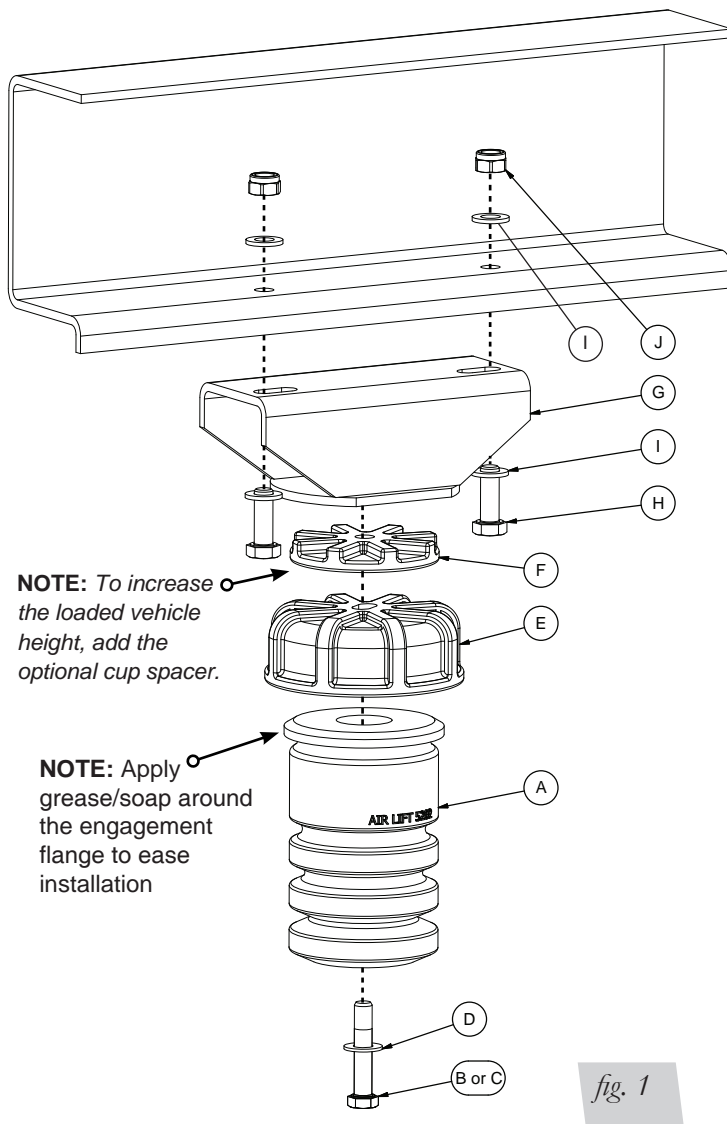
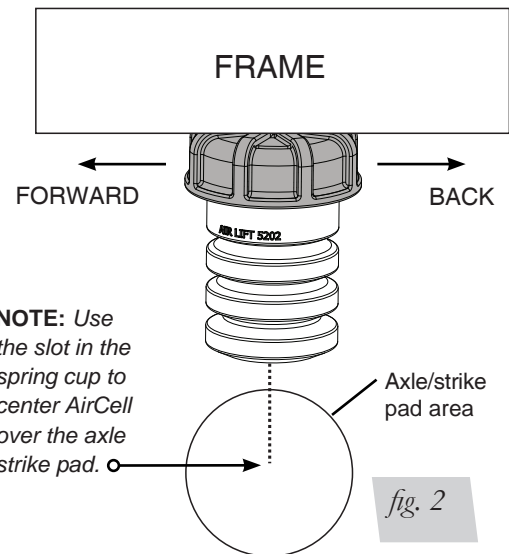

fig. 1
fig. 2
3. Assemble the spring cup (E) to the bracket (G) using the supplied 3/8" bolt (C) and 3/8" flat washer (D) (fig. 1). Torque the hardware to 31 ft/lbs.
4. Using the holes where the stock jounce bumper was removed, attach the bracket/cup assembly to the vehicle using the supplied M10 bolts (H), flat washers (I), and depending on the year, nyloc nuts (J). Torque the mounting bolts to 37 ft/lbs.
5. Insert the spring (A) into the spring cup (E) using a twisting motion while pushing with force. Make sure the spring snaps into position inside the cup.
6. Check the alignment of the spring over the axle strike pad (fig. 2). If needed, loosen the mounting bolts and move the bracket forward or back to properly align (fig. 1 and 2). Fine adjustment can be obtained with the slot in the spring cup. Repeat steps 3 - 6 for the other side of the vehicle.